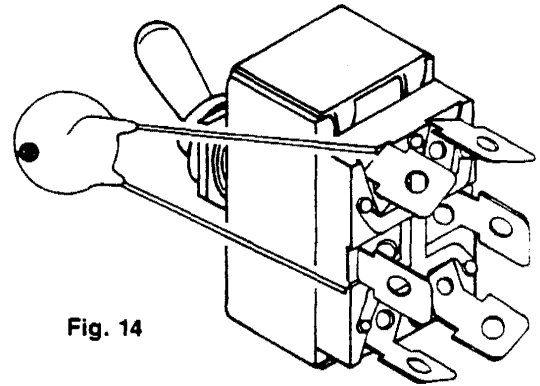

Fig. 14
- a. Connect one lead (they are bi-directional) to the 120V AC side of the switch and the other lead to the solenoid side (see Fig. 14).